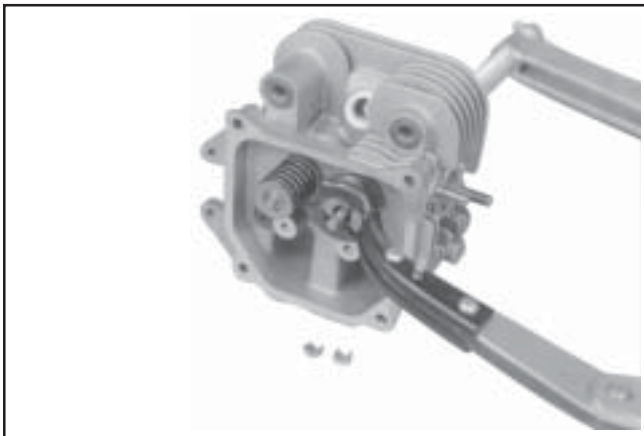

Figure 9-46. Removing Valves with Valve Spring Compressor.
2. Compress the valve springs using a valve spring compressor. See Figure 9-46.